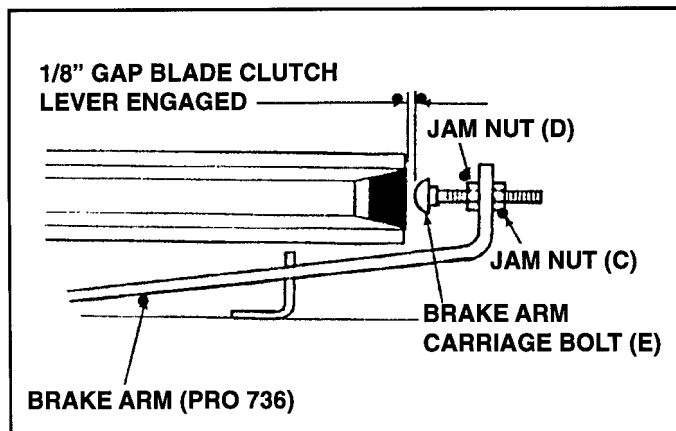

FIGURE 5.14
- Tighten Jam Nut (C). (See Figure 5.14).